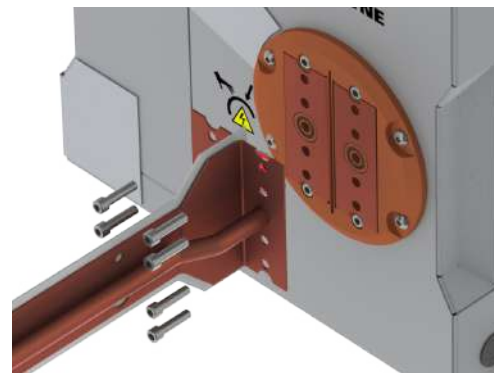

Figure 4-2: Output Inductor Installation/Removal
**Step 3.** Install/remove output inductor (Figure 4-2)